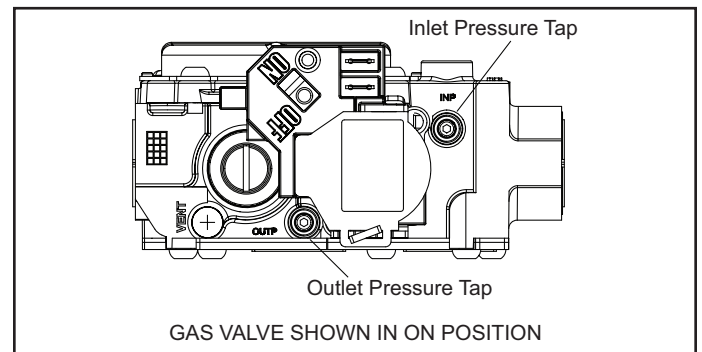
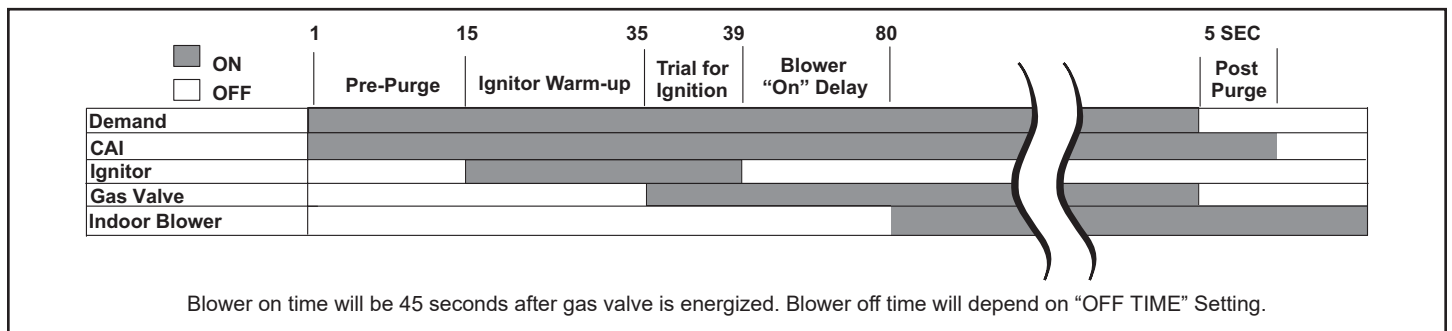

Figure 38. White Rodgers Gas Valve
Figure 39. Heating Sequence of Operation
See Figure 38 or Figure 39
6. Move switch on gas valve to OFF. Do not force. See Figure 38 or Figure 39.
8. Move switch on gas valve to ON. Do not force. See Figure 38 or Figure 39.